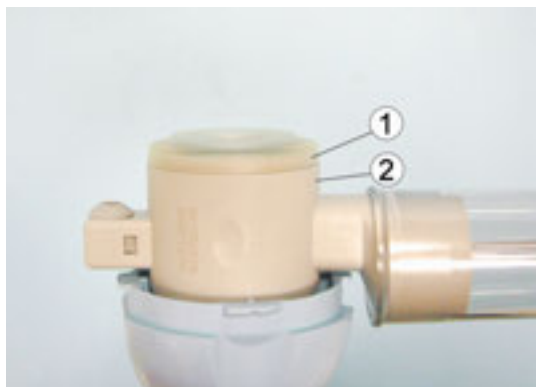

Fig. 94 Expiratory valve: fitting the diaphragm
- 1 Clip the new diaphragm (Fig. 94/1) onto the rim of the expiratory valve (Fig. 94/2) so that it engages on the expiratory valve rim all the way round.